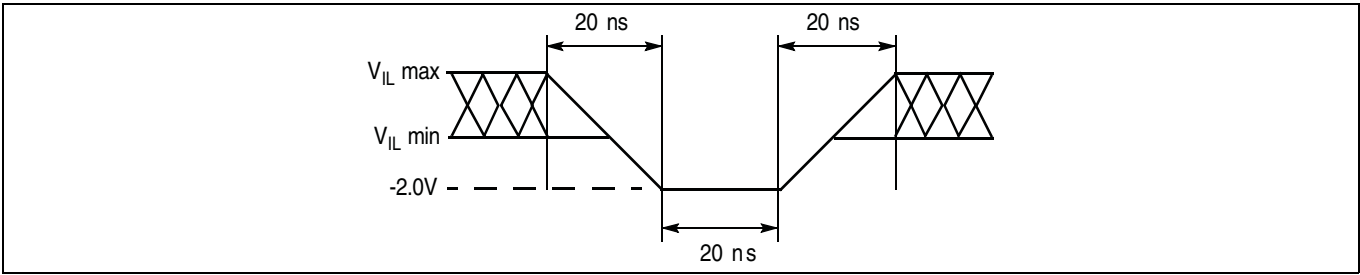
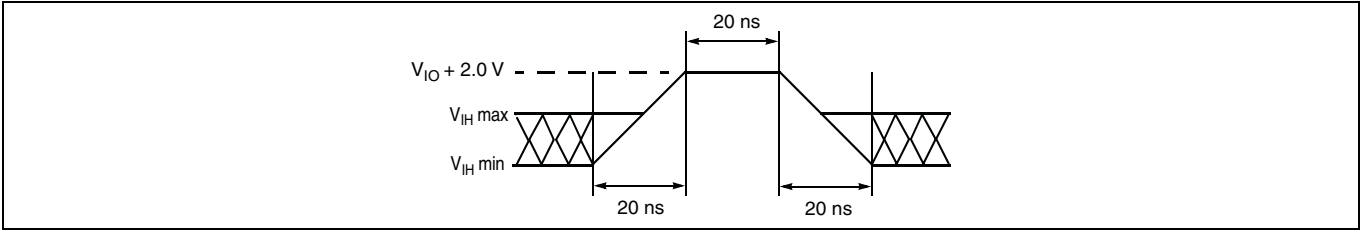

Figure 11 Maximum negative overshoot waveform
Figure 12 Maximum positive overshoot waveform
98. Minimum DC voltage on input or I/O pins is –0.5 V. During voltage transitions, input or I/O pins may undershoot VSS to –2.0 V for periods of up to 20 ns. See Figure 11. Maximum DC voltage on input or I/O pins is VCC + 0.5 V. During voltage transitions, input or I/O pins may overshoot to VCC + 2.0 V for periods up to 20 ns. See Figure 12.